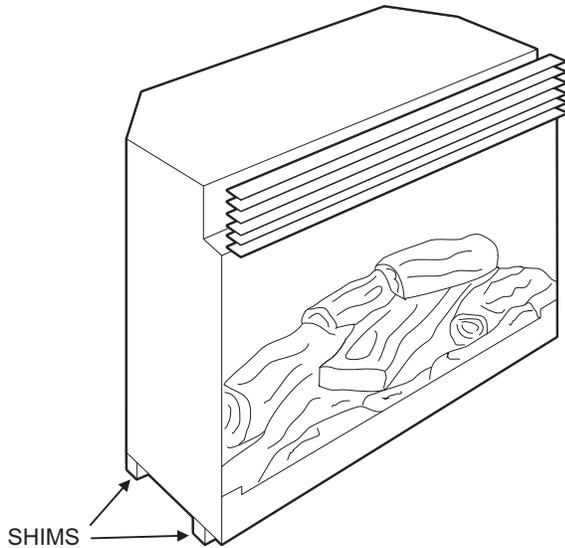

FIGURE 7
5. Level, if required with wood shims (not included) **4** (FIGURE7).